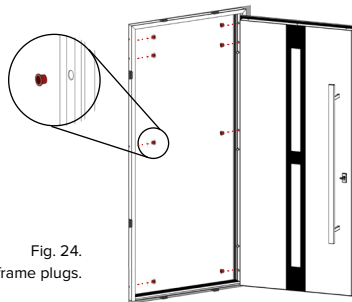

Fig. 24.
3.18. After the final installation and acceptance of the door unit, the openings for the fixing elements must be covered with the supplied plugs (Fig. 24).